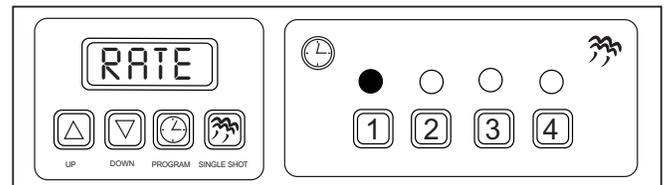

Figure 5. RATE Mode on Menu 1
**RATE (Shot Interval Time)** is the time set between each shot of steam during a complete cycle (Figure 5).
6. While in Program mode (press the **PROGRAM** button if not in this mode), press both the **UP** and **DOWN ARROW** buttons simultaneously. RATE will appear in the display for a moment (Figure 5).